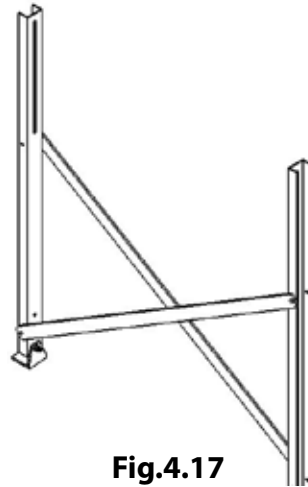
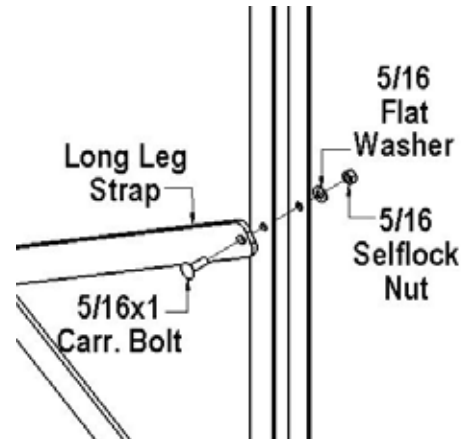

Fig. 4.17
Fig. 4.18
**4.6 Long Leg Support:** Long Leg Supports are required on any ramp with a rise of 36" or greater. Two leg brace straps will be required at each location requiring long leg supports. Attach the first leg brace strap to the leg channel, using the slotted hole at the end of the leg brace strap and the round hole punched in the leg channel, run a carriage bolt through both and fasten with washer and self locking nut on the inside of the leg channel (**Fig. 4.18**). Finger tighten only, and attach the next strap on the other side of the ramp at the opposite end of the leg. Once hardware has been installed at both ends of the leg brace strap tighten hardware all of the way down (**Fig. 4.17**). Repeat these steps on the other side of the legs running the straps the opposite direction so that the leg brace straps form an X between the ramp legs.